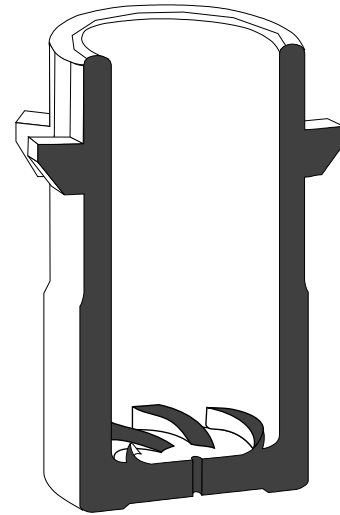

**FIGURE A.1**
D. Assemble an electrode, nozzle, shield cup and drag cup on the torch as shown in the Figure A.1. First insert the electrode with the hafnium insert facing out. Then, place the nozzle over the electrode and allow it to seat against the swirl ring. Place the shield cup over the nozzle and tighten firmly by hand. Slide the drag cup onto the shield cup for drag cutting.